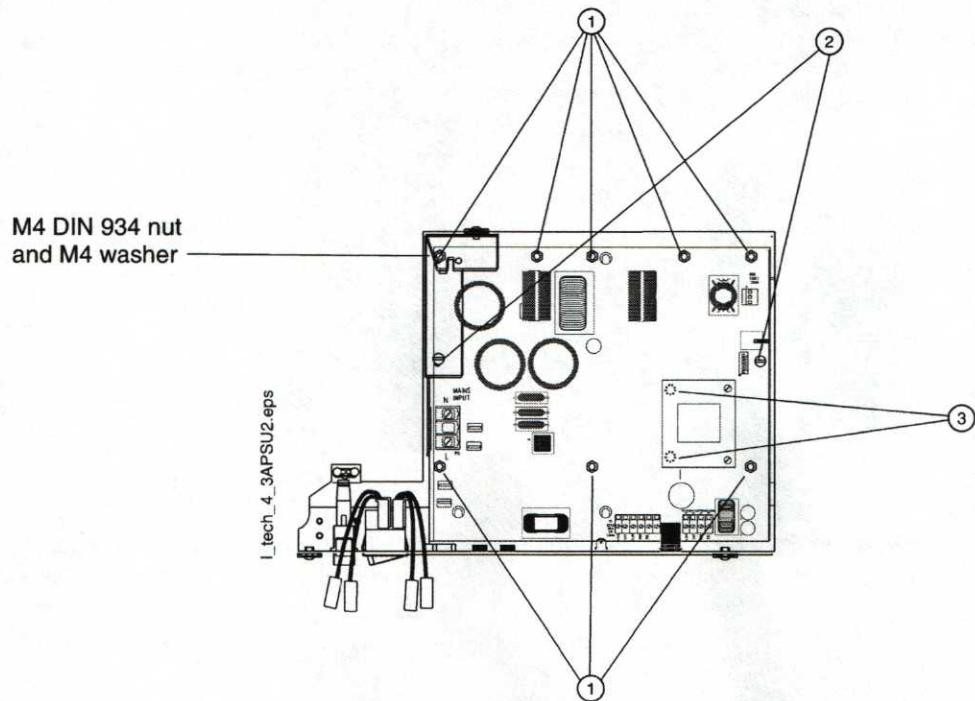

Figure 8
- e) Remove the eight M4 DIN 934 attachment nuts and ø4.3 DIN 6798 washers from the Generator PCB (Fig. 8, 1). Unscrew the two M4x8 DIN 84 screws (Fig. 8, 2). Lift the generator assembly away from the wall adapter and open the two M3x6 DIN 912 screws located behind the generator assembly frame (Fig. 8, 3).